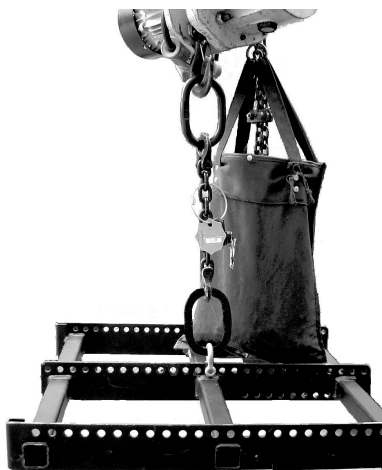
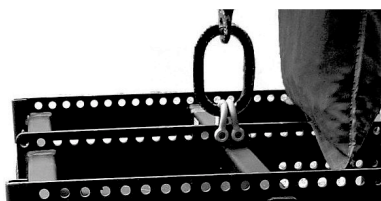
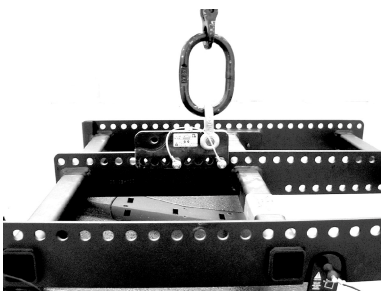

Fig. 6: Hoist connector chain set up
Fig. 7: Half grid using 2 x 1t Shackle
Fig. 8: Quad grid using the Z5160 Q Load adapter
- Connect the Z5155 Q Hoist connector chain to the next rounded numbered hole using one E6507 1t Shackle (Fig. 6). If ArrayCalc displays a half numbered hole setting (half grid) use two 1t Shackles set to the adjacent holes (Fig. 7). As an alternative the Z5160 Q Load adapter can be used to achieve a quad grid (Fig. 8). Please refer to the Z5160 Q Load adapter manual.